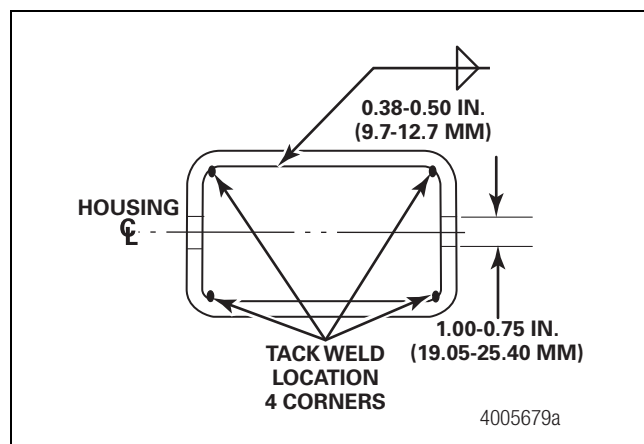
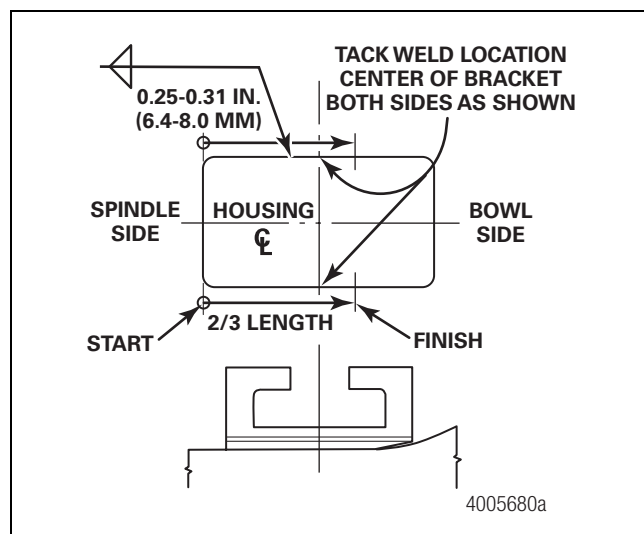

Figure 3.18
Figure 3.19
8. For Chalmers tower and saddle bracket tack and final weld details, refer to Figure 3.18 and Figure 3.19.